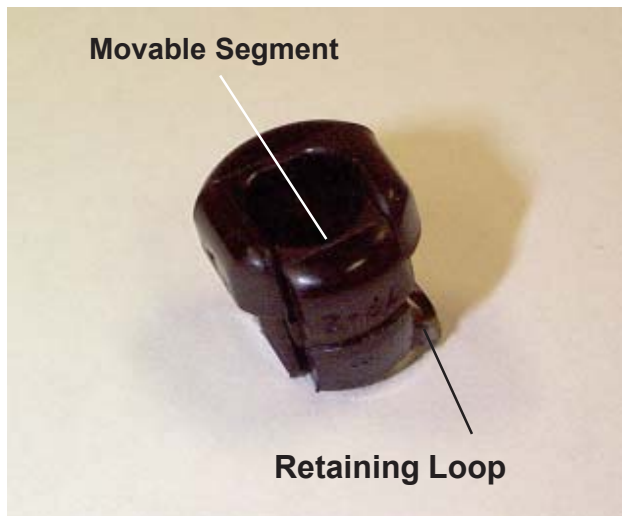

Figure 15. Strain Relief Fitting (shown removed from foot controller cord)
13. The foot controller cord is held in the access plate by a black plastic strain relief fitting (Figures 15 and 16). A moveable segment in the fitting squeezes inward to apply pressure to the cord. With a pliers, squeeze this segment deeper into the strain relief and slip the relief out through the plate.
2. Place the strain relief fitting on the foot controller cord about 5-1/2-in. from the end of the controller cord. Orient the fitting so that the retaining loop (Figures 15 and 16) is toward the access plate.